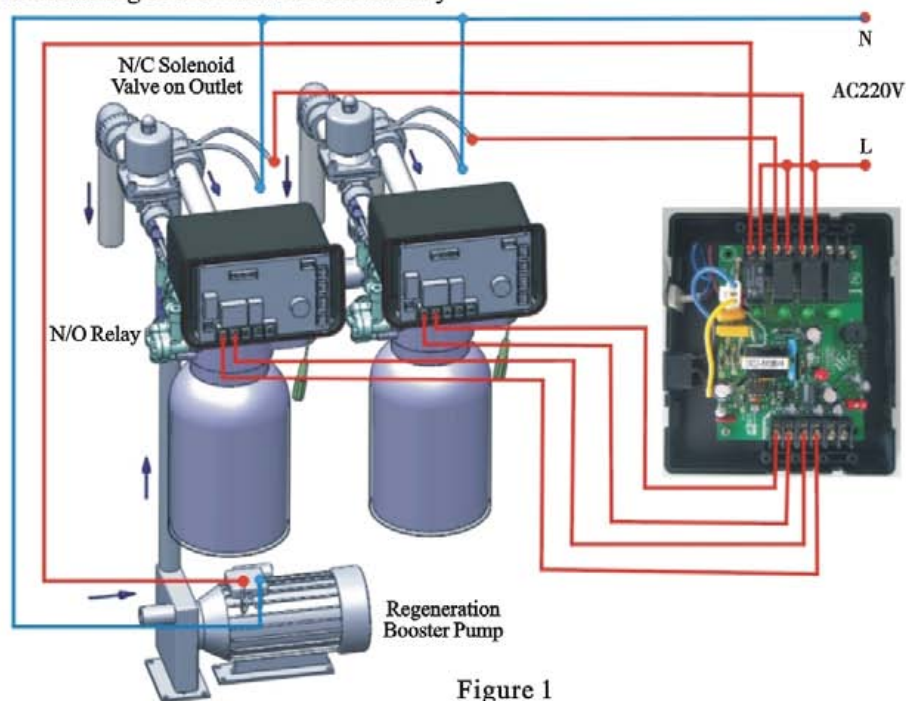
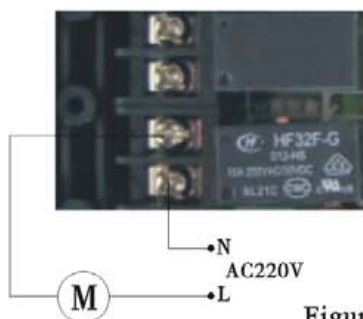
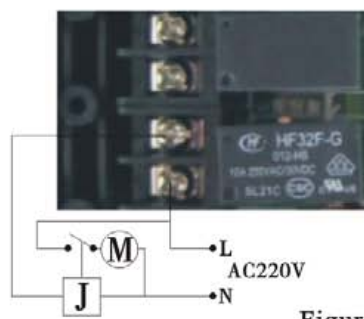

Figure 1
Figure 2
Figure 3
Before using, dial the switch on board to be: "1". Connect wires as figure 1. All of connectors on board are passive switches. When it is closed, the indicator light on.
Before using, dial the switch on board to be: "ON". Connect wires as figure 2. All of connectors on board are passive switches. When it is closed, the indicator light on.
- ① Two valves are meter type. Set signal output mode to be “b-01” of each valve before put them as one in service one standby system.
- ② Dial the switch to be “1” to be “One in service one standby” program. The set will be saved even through power is shut-off.
- ③ “Relay N/O port” is the normal open port of the third black connector on controller, “N/O”, “COM” port.
- ④ “Solenoid valve on outlet” is the AC220V normal close solenoid valve on outlet.
- ⑤ If system need connect with booster pump, connect with the bottom left two connectors in figure 1. If pump current  $< 5A$ , connect with controller directly (Figure 2); If current  $\geq 5A$ , it needs to connect with an AC relay (Figure 3).
- ① Three valves are meter type. Set signal output mode to be “b-01” of each valve before put them as two in service one standby system.
- ② Dial the switch to be “ON” to be “Two in service one standby” program. The set will be saved even through power is shut-off.
For one in service one standby system as figure 1, connect transformer into AC100~240V/50~60Hz socket, dial switch on "1" position, all indicators light on for 1 second, then enter work status. Check the system if has one in service one standby function.
For two in service one standby system as figure 2, connect transformer into AC100~240V/50~60Hz socket, dial switch on "ON" position, all indicators light on for 1 second, then enter work status. Check the system if has two in service one standby function.